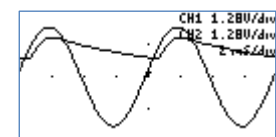

Figure 64: Half wave rectifier
- 5) The display should look like figure 64.